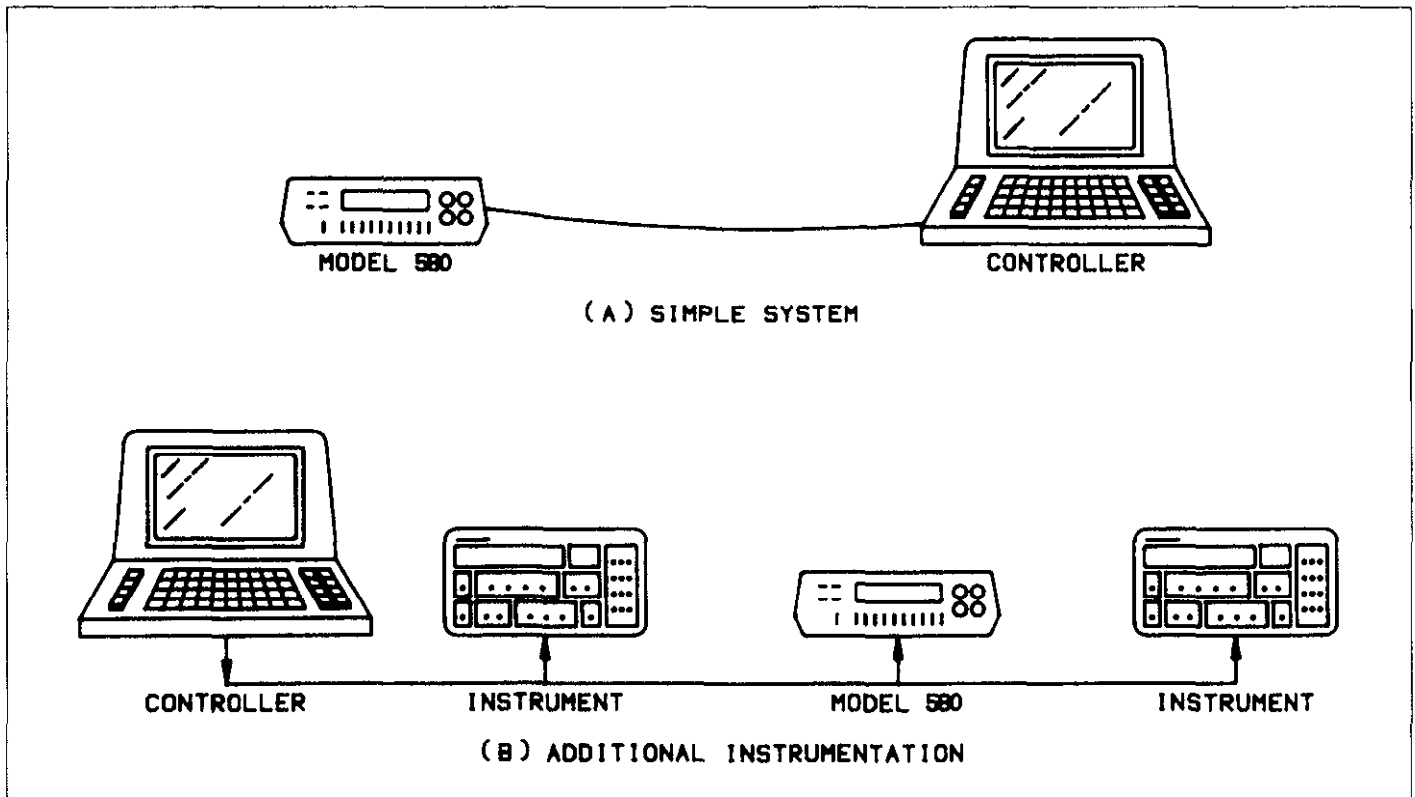

Figure 3-1. System Types
Figure 3-1 shows two typical system configurations. Figure 3-1(A) shows the simplest possible controlled system. The controller sends commands to the instrument, which sends data back to the controller.
The system becomes more complex in Figure 3-1(B), where additional instrumentation is added. Depending on programming, all data may be routed through the controller, or transmitted directly from one instrument to another. For very complex applications, a much larger computer may be used. Tape drives or disks can then be used to store data.